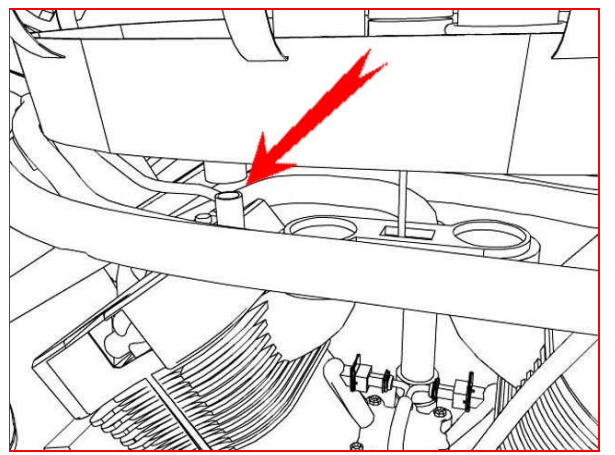

Figure 5
7. Disengage front crankcase breather hose and remove airbox floor. There is no clamp on this hose. ( fig 5)